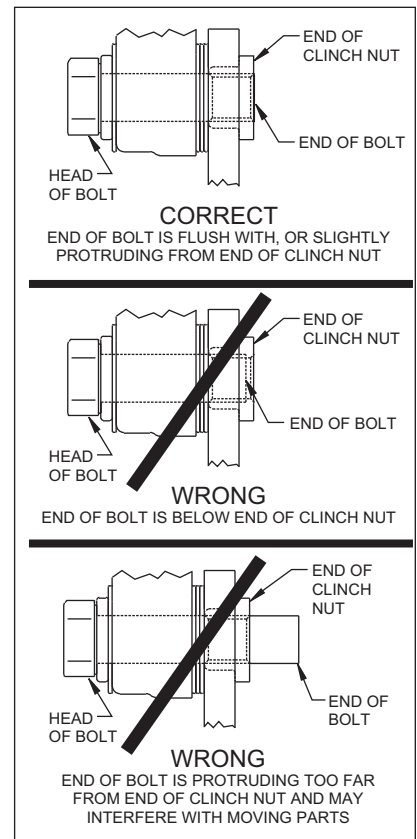

Figure 5.
- Install the dust cap (18) onto the hub (7). Friction created by the o-ring (17) on the dust cap (18) keeps it from unscrewing. The O.D. of the existing spindle washer may be larger than the I.D. of the dust cap (18) which may allow the washer to contact the dust cap (18). Use the spindle washer (15) supplied with the kit instead of the stock washer.
- NOTE:** *Please reference the caution statement at the beginning of the assembly instructions.* Mount the caliper (19) onto the caliper bracket (1) using two bolts (21) and two washers (20). Finger tighten. View the rotor (11) through the top of the caliper (19). The rotor (11) should be aligned in the center of the caliper (19). If not, loosen the two bolts (21) and adjust the caliper (19) by using 0.032 inch thick shim washers (22). The shim washers (22) should be placed between the caliper (19) and the caliper mounting bracket (1). Finger tighten and recheck alignment. Add as many shim washers (22) as necessary to achieve the correct alignment. **NOTE:** *The end of the bolt must be flush with or slightly protruding from the head of the clinch nut.* See Figure 5. Place spare shims (22) between washer and caliper mounting ear to achieve the proper mounting fastener configuration. Always use the same amount of shims on both the top and bottom caliper mounting bolts (21). Loosen the two bolts (21) and apply red *Loctite*® 271 to the bolt threads (21) and torque to 40 ft-lb. Safety wire the two bolts (21).
- Install the disc brake pads (23) into the caliper (19). Secure the disc brake pads to the caliper utilizing cotter pin (24).